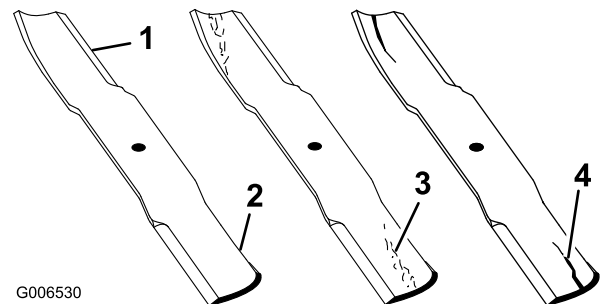

Figure 80
1. Inspect the cutting edges (Figure 80). If the edges are not sharp or have nicks, remove and sharpen the blades. Refer to Sharpening the Blades.
2. Inspect the blades, especially the curved area. If you notice any cracks, wear, or a slot forming in this area immediately install a new blades (Figure 80).